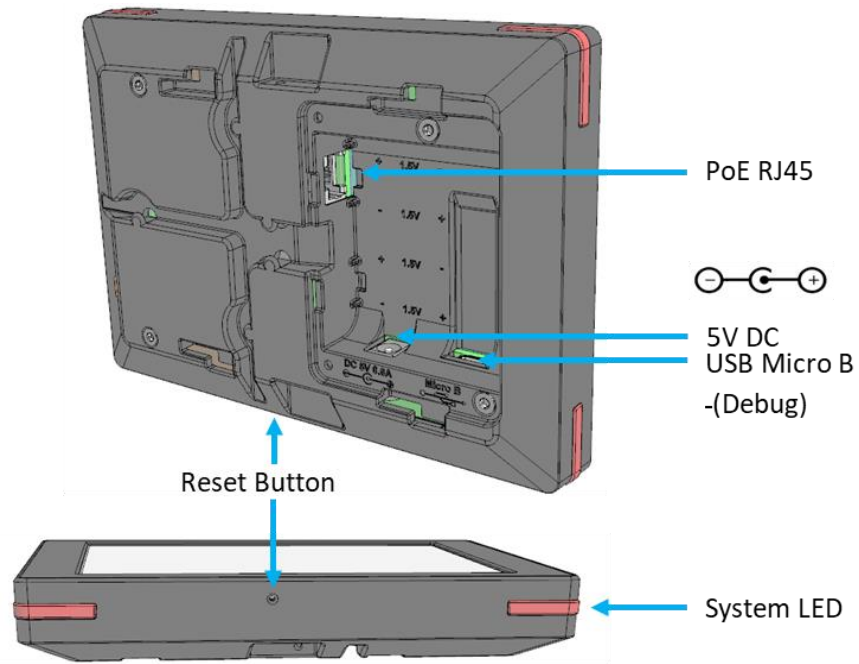
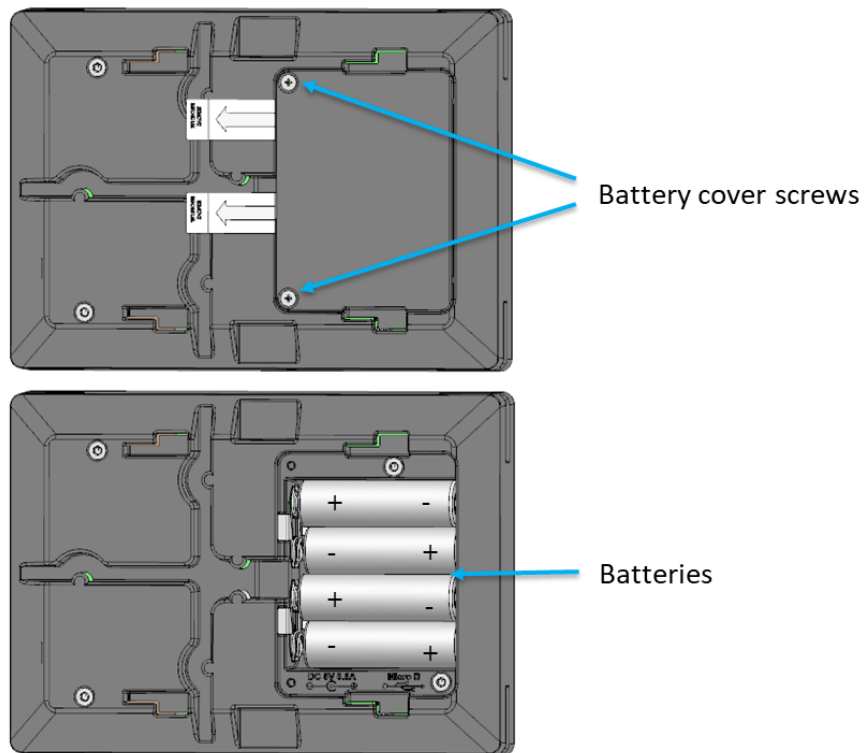

Figure 1-2: The Tablet (external) interface layout.
Figure 1-3: The Tablet (Battery) interface layout.
Figure 1-2 and Figure 1-3 illustrates the customer-accessible interfaces of the Tablet. All models share the same layout; however, some functions are not available in some models. The externally
powered model shown in Figure 1-2 has RGB LEDs on the corners while the battery-powered version shown in Figure 1-3 cannot use the LEDs.
- The reset switch of the Tablet is accessible through a pin hole in the bottom side of the Tablet as shown in Figure 1-2.
- Removed the battery cover by removing two philips screws shown in Figure 1-3